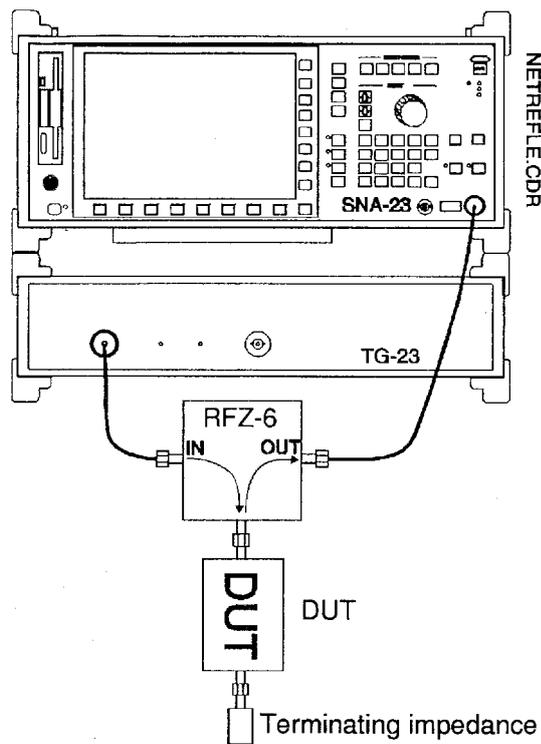

Fig. 4-20 Setup for measuring the return loss
- Reconnect the DUT (see Fig. 4-20 on page 4-23). The return loss of the DUT should now be displayed.